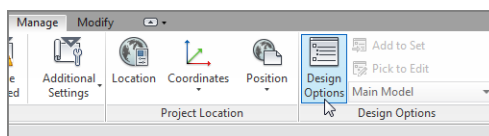

FIGURE 21.9: Clicking the Design Options button
1. On the Manage tab, click the Design Options button, as shown in Figure 21.9.